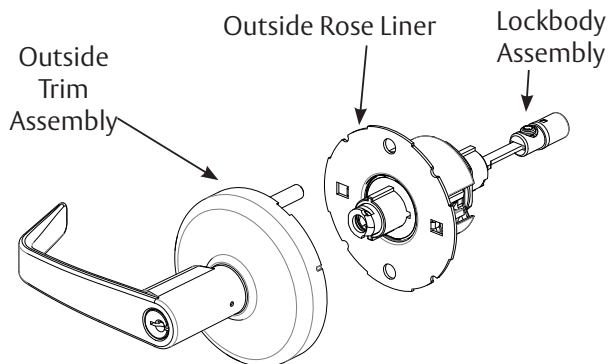

Figure 4
1. Remove outside trim assembly from the lockbody assembly. The lever, rose, and spring housing will remove as one piece from the lockbody (See Figure 4).